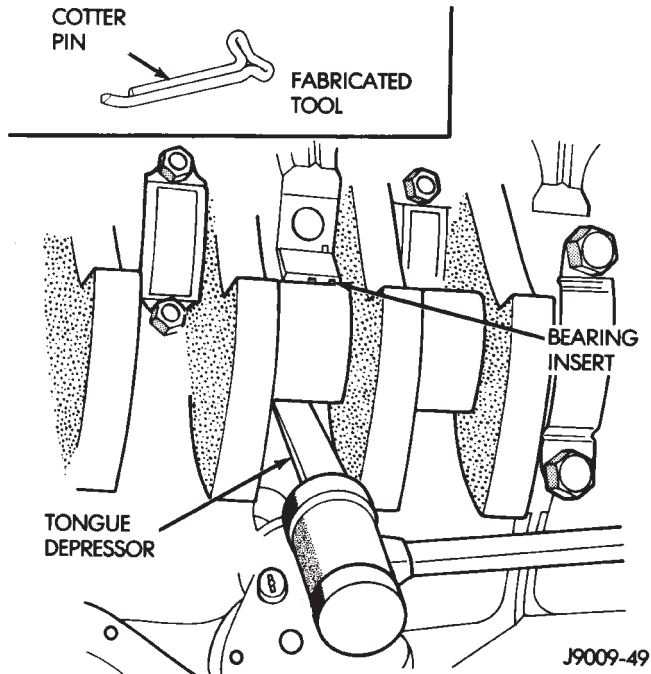

Fig. 55 Removing Upper Inserts
(6) Remove the lower insert from the bearing cap.
(7) Remove the upper insert by LOOSENING (DO NOT REMOVE) all of the other bearing caps. Now insert a small cotter pin tool in the crankshaft journal oil hole. Bend the cotter pin as illustrated to fabricate the tool (Fig. 55). With the cotter pin tool in place, rotate the crankshaft so that the upper bearing insert will rotate in the direction of its locking tab. Because there is no hole in the No.3 main journal, use a tongue depressor or similar soft-faced tool to remove the bearing insert (Fig. 55). After moving the insert approximately 25 mm (1 inch), it can be removed by applying pressure under the tab.
(8) Using the same procedure described above, remove the remaining bearing inserts one at a time for inspection.